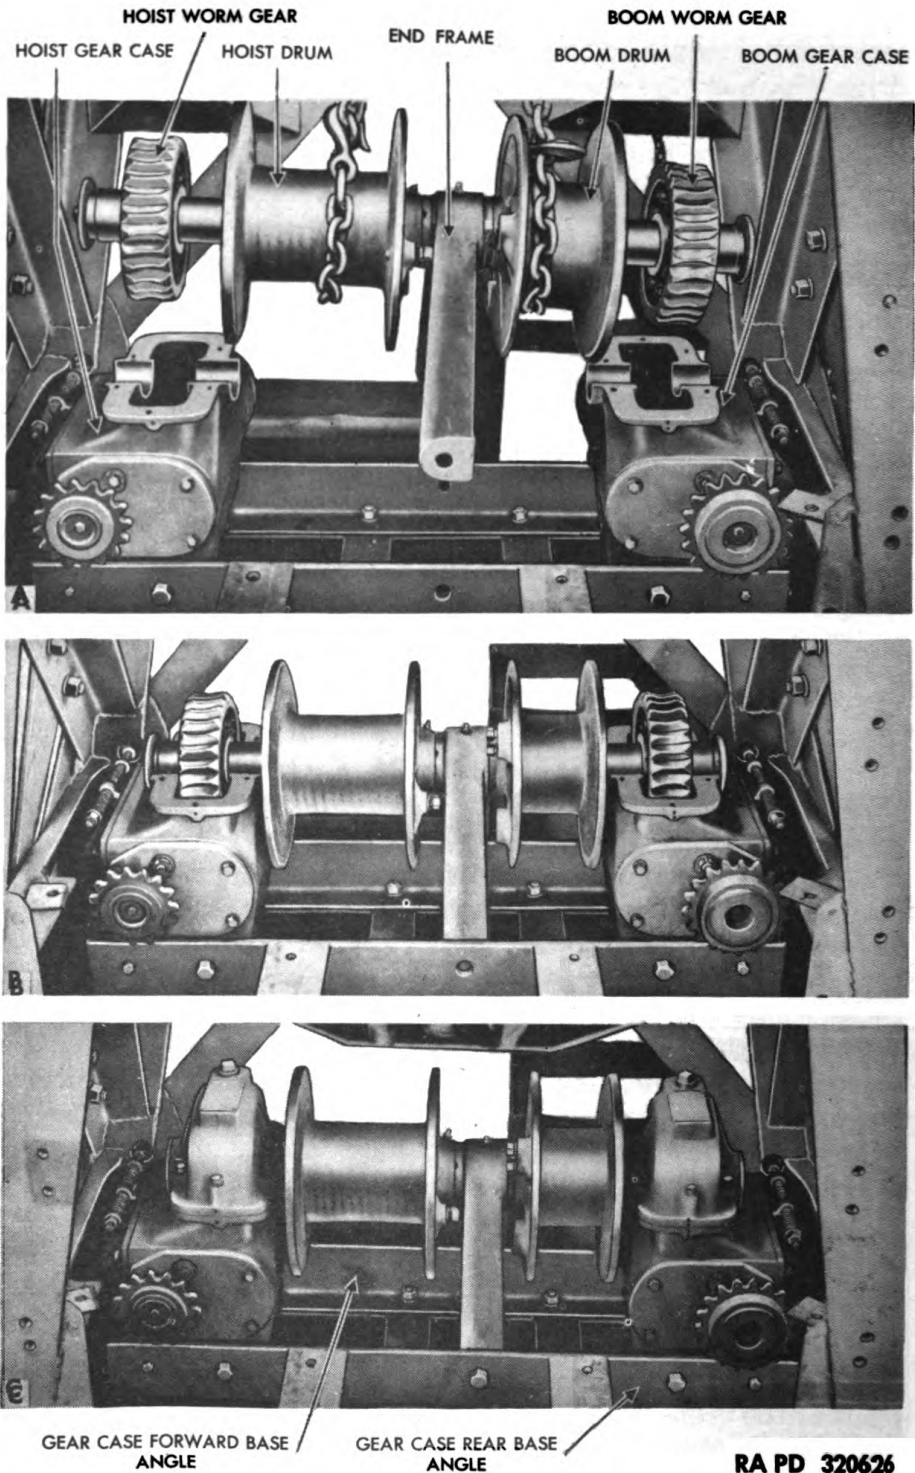

Figure 65 — Installing Double Drum, Hoist, and Boom Gear Cases
a. Position Double Drum. Place worm gear and double drum in position. Set the boom drum shaft and worm gear on the boom pivot base plate. Set the end frame assembly and the hoist drum, shaft, and worm gear also on the boom pivot base plate, and assemble as outlined in paragraph 48 a (fig. 52). Using a bridal sling in the top of the crane A-frame, hook onto the two drums; with a chain hoist, raise the double drum and shaft assembly and lower into position in the bearing bores of the hoist and boom gear cases (A, fig. 65). When lowering the double drum assembly align the sleeve bearing dowel holes with the dowels in the gear cases. Make certain that the worm gear thrust washers are over against the worm gear spiders, and are not bent or damaged when the double drum assembly is lowered into the gear cases (B, fig. 65). Enter the end frame into the gear case base angles, and continue lowering the double drum assembly until it is in position (C, fig. 65). Slight rotation of the worm may be necessary to mesh the threads of the worms with the hoist and boom worm gears.
b. Install Hoist and Boom Gear Case Upper Halves. Install the hoist and boom gear case upper halves, using new gaskets. Install the gear case upper halves so that the punch marks on the upper and lower gear case halves are in alignment, and agree. Install six gear case cap screws and lock washers (C, fig. 65). Tighten down drum shaft retaining washer cap screws, and check clearance between the retaining washers and the gear cases. This clearance should be $\frac{1}{32}$ inch; if there is any variation in this dimension, subtract or add shims under the retaining washers as necessary. Install the end frame mounting bolts, nuts, and lock washers. Remove the gear case filler plugs, and fill with gear oil to the level plug located on the sides of the gear cases. Capacity is 2 quarts each.